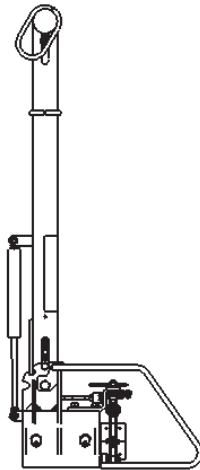

Figure 9.4.4 The TRAM Upright position
- b. Remove M8 Nuts, Washers and Screws from both ends of Gas Spring. Install the new Gas Spring and new fasteners from Kit TR-06-3-007. Ensure the orientation of the Gas Spring is correct with the ram extending downwards. See Figure 9.4.4.